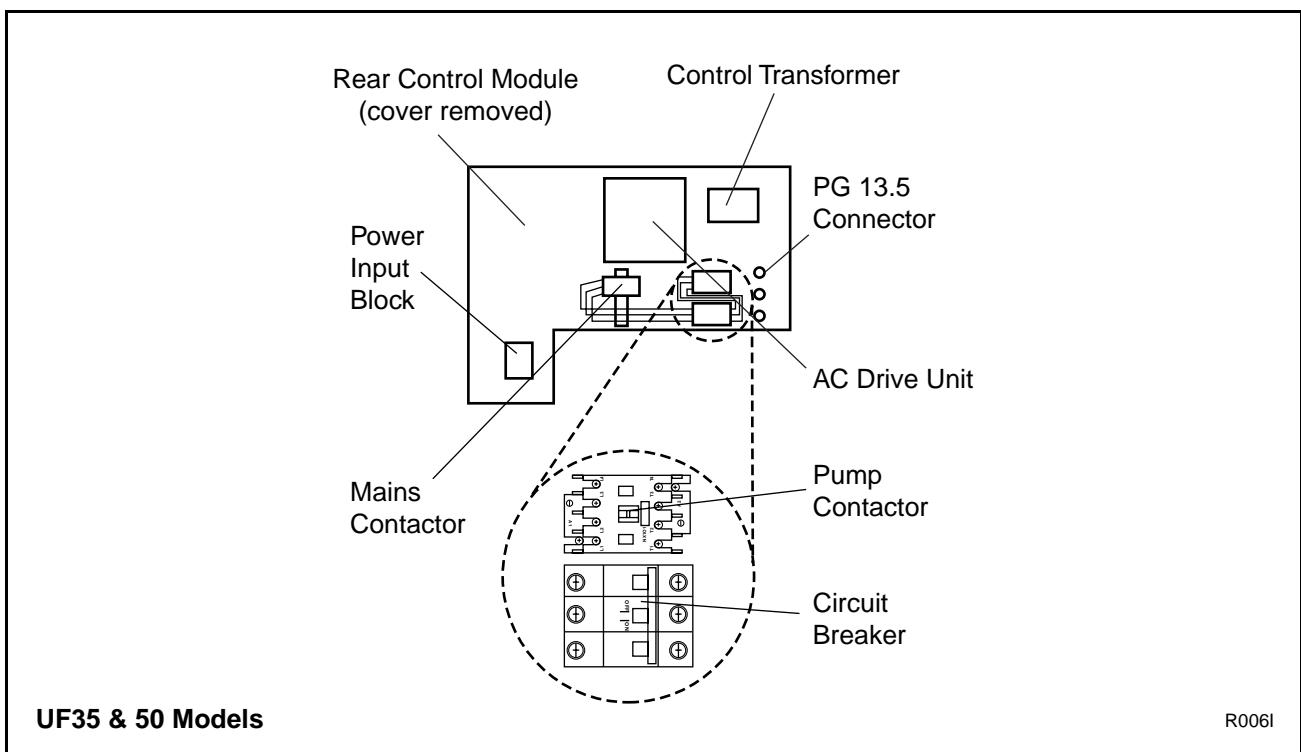
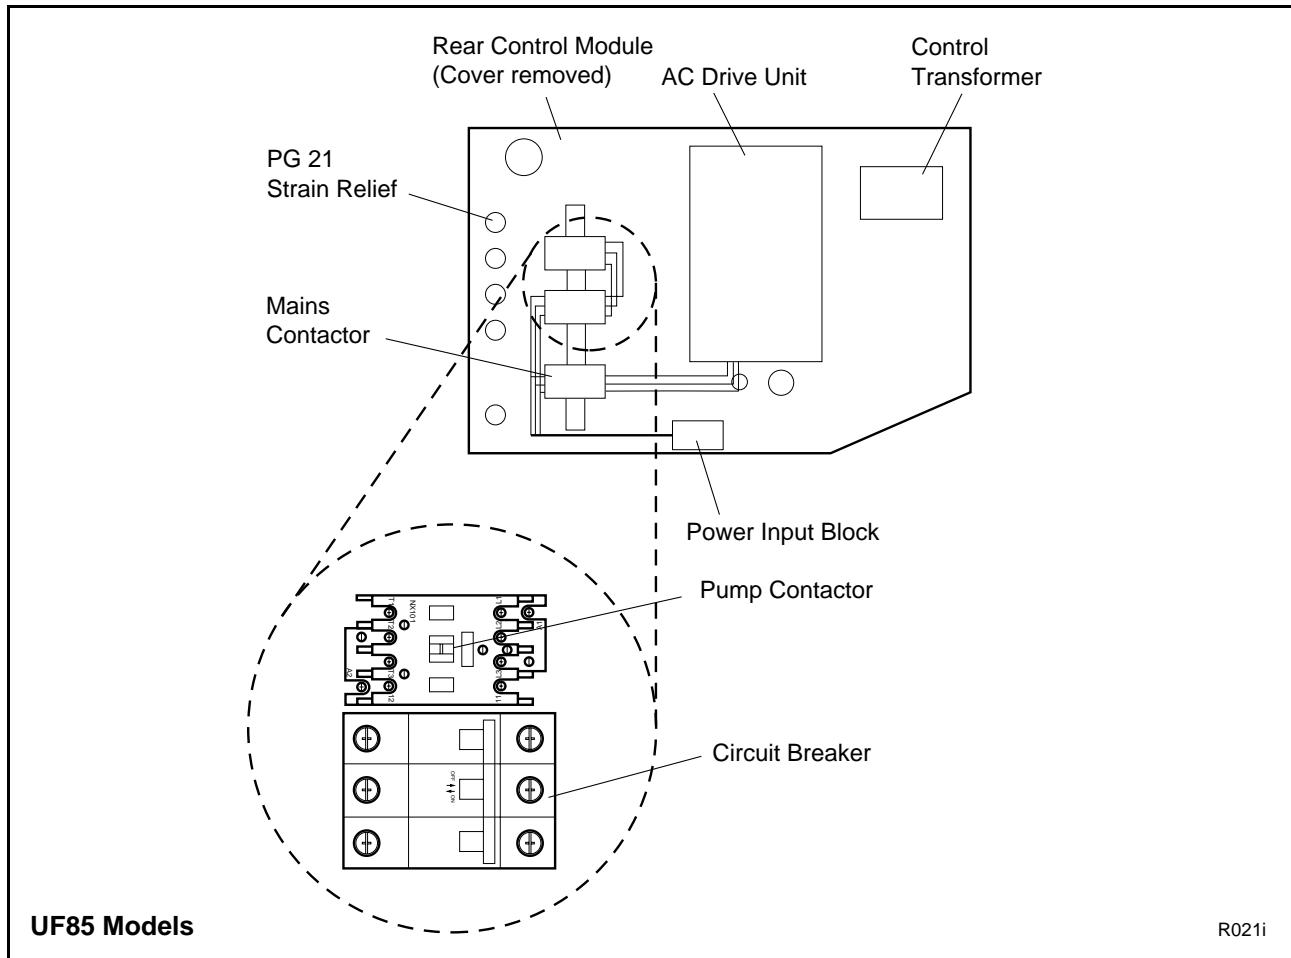

Figure 21
Figure 22
- b. *On the 35- and 50-pound models*, attach the pump contactor and the circuit breaker, included in the kit, to the mounting rail just below the control transformer on the right side of the AC drive unit as shown in Figure 21. *On the 85-pound models*, attach the pump contactor and the circuit breaker, included in the kit, to the mounting rail located to the left of the AC drive unit.
- a. *On the 35- and 50-pound models,* remove the top two plugs of the three black plugs from the right side of the rear control module. These plugs are located just to the right of the pump contactor and circuit breaker. See Figure 21. *On the 85-pound models,* remove the second plug from the top located to the left of the pump contactor and circuit breaker. See Figure 22.